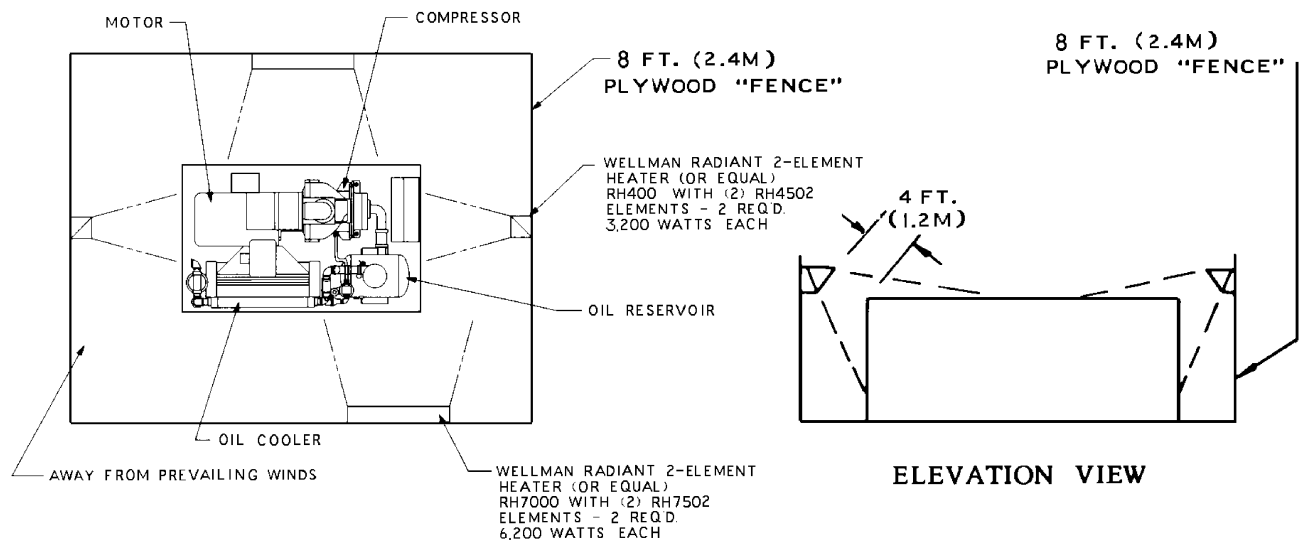

Figure 2-3 – COLD WEATHER INSTALLATION
INSTALLATION FOR COLD WEATHER OPERATION (Figure 2-3, page 10) - It is recommended that the unit be installed inside a shelter that will be heated to temperatures above freezing (32° F, 0° C). This will eliminate many of the problems associated with operating units in cold climates, such as freezing in control lines and downstream of the cooler.
3. Some means of providing heat during shutdown should be provided. There are various methods to accomplish this, but since openings are not provided for sump heaters, the use of radiant heaters is recommended. The heaters should be sized to provide at least a +10° F (-12° C) environment for coolers, motor and sump. Figure 2-3, page 10, this section, shows how these might be located in a typical installation and sizes required.